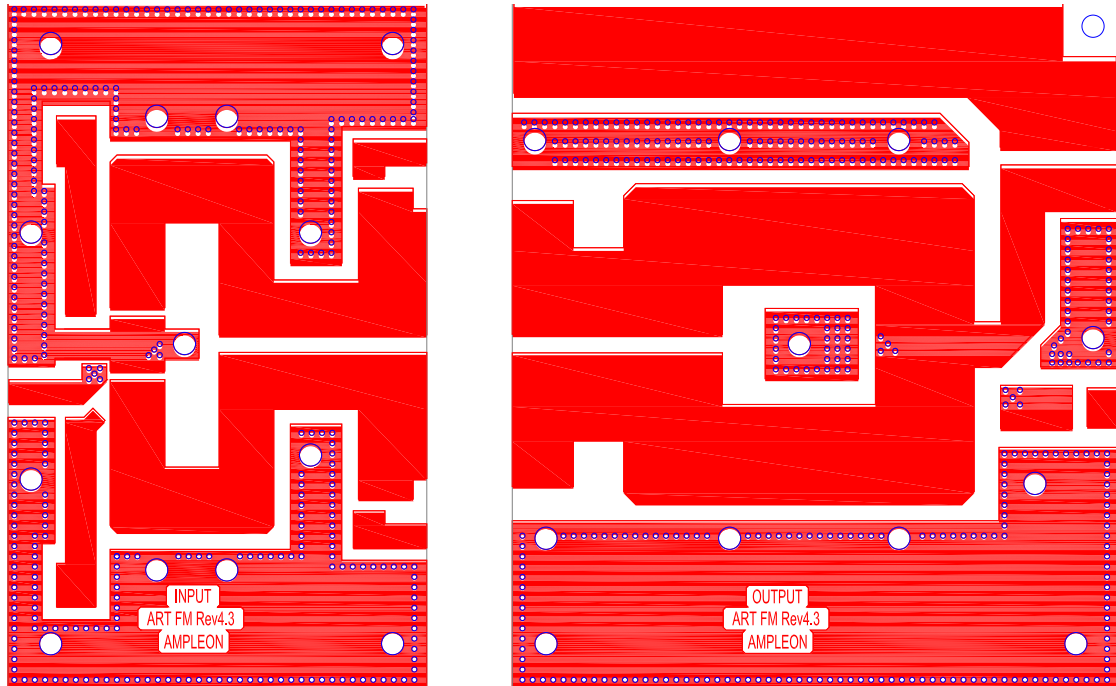

Figure 5 PCB layout top layer
- Figure 5 PCB layout.....top layer 9